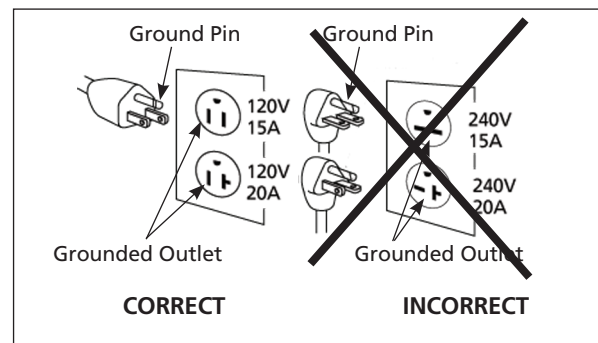

Figure 3 - Grounding Method
1. This product is for use on a nominal 120 v circuit. It must be grounded. In the event of an electric short circuit, grounding reduces the risk of electrical shock by providing an escape wire for the electric current. Unit is equipped with a cord that has a grounding prong. It will fit one of the common outlet types shown in Figure 3. If plug will not fit in the desired outlet, have the plug or the outlet replaced by a qualified electrician.
3. This product is for use on a nominal 120 volt circuit and has a grounding plug that looks like the plug illustrated in Figure 3.